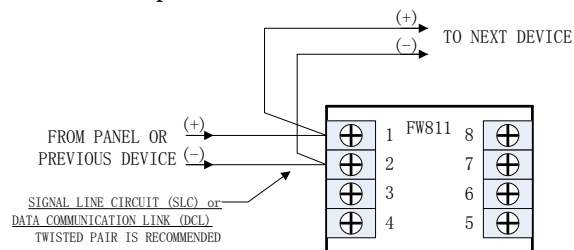

Figure 2. Wiring Diagram (SLC/DCL)
2. Connect the wires, see Figure 2. There is polarity sensitive between terminal 1 and terminal 2. All circuits are power-limited.